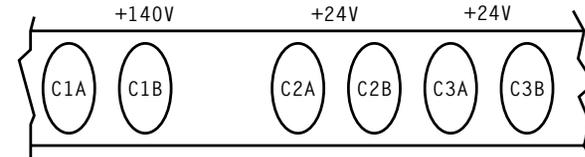

Figure 1 - Example of Capacitors DIF Bay (Front View)
- [3] See FIGURES 1 and 2. Locate and mark leads of +140V capacitors associated with controller and DIUs being repaired (C1As=DIU 0 and all odd DIUs-CIBs=DIU 33, and all Even DIUs)